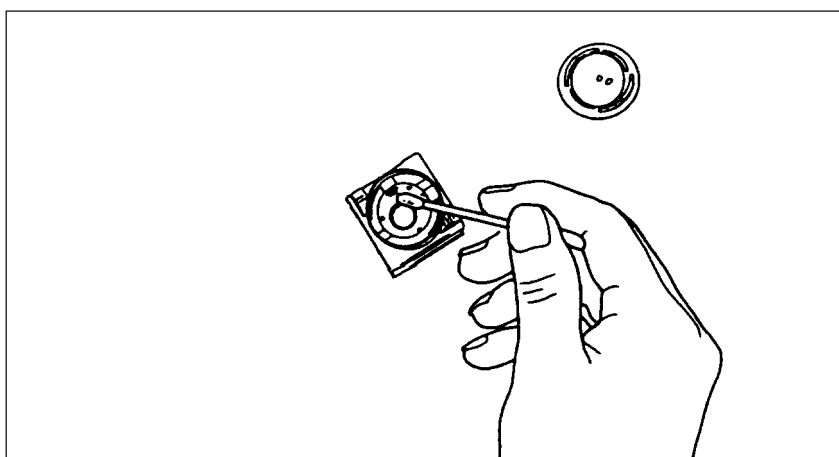

Figure 2-15 Cleaning the Trackball Housing
5. Clean the trackball housing (Figure 2-15).